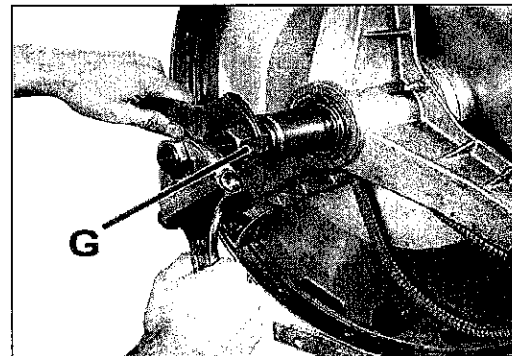

fig. 30
- Mount the tool inserter **G** and tighten the locking nut until the drum is firmly fixed. (fig.30).